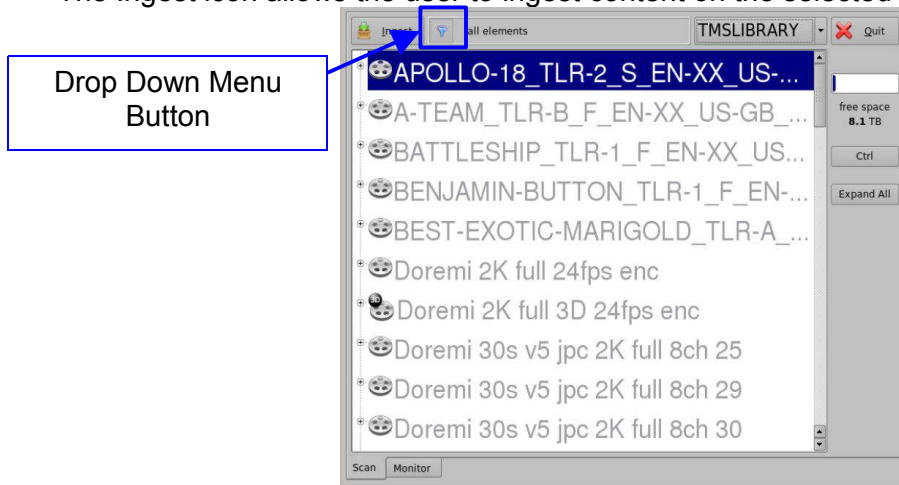

Figure 94: Ingest GUI
- The Ingest icon allows the user to ingest content on the selected screen (Figure 94):